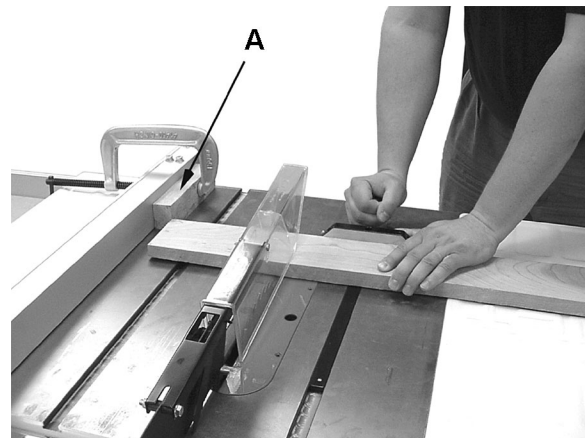

Figure 9-9
- Do not use the miter gauge and rip fence in the same operation unless provision is made by use of a facing board on the fence so as to allow the cutoff section of the workpiece to come free before the next cut is started (See Figure 9-9).
Crosscutting should **never** be done freehand nor should the fence be used as an end stop unless an auxiliary block (A, Figure 9-9) is clamped to the front of the blade area such that the cutoff piece comes free of the block before cutting starts.